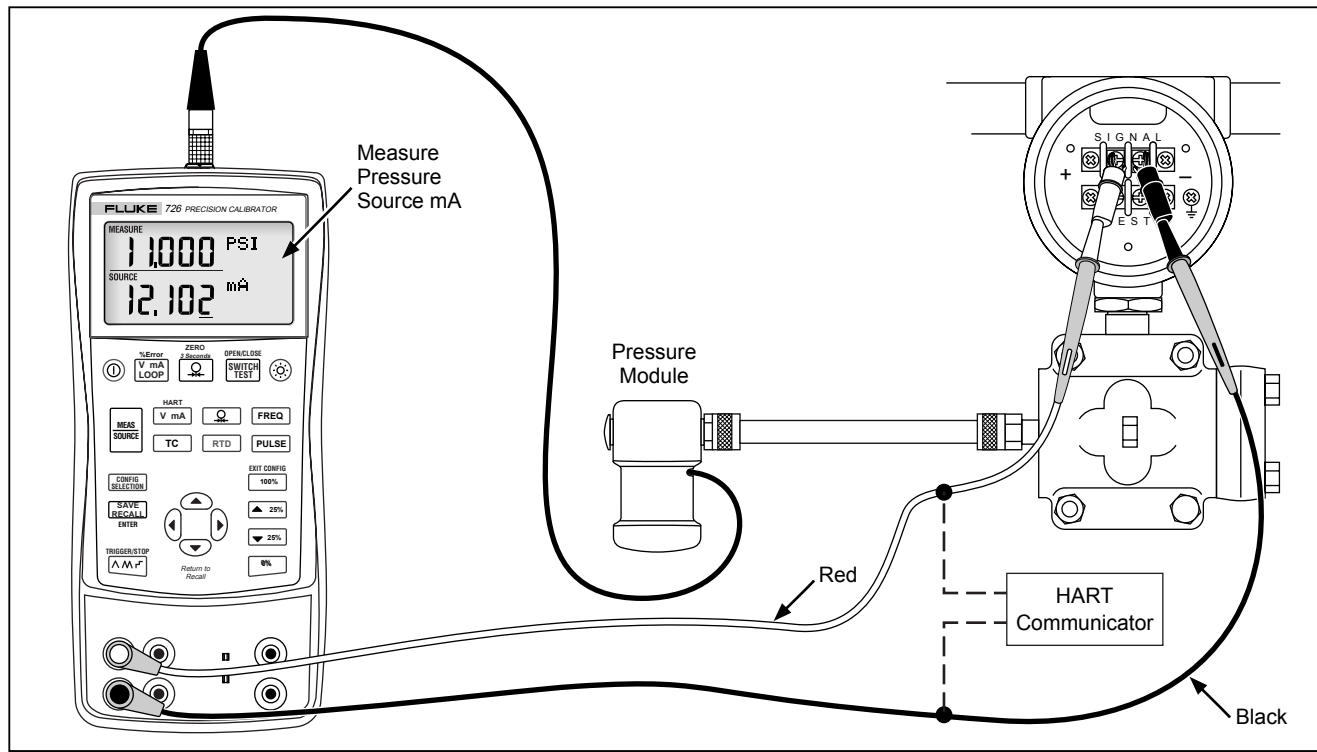

Figure 22. Calibrating a Current-to-Pressure (I/P) Transmitter
1. Connect the test leads to the instrument under test as shown in Figure 22. The connections simulate a current-to-pressure transmitter and measures the corresponding output pressure.